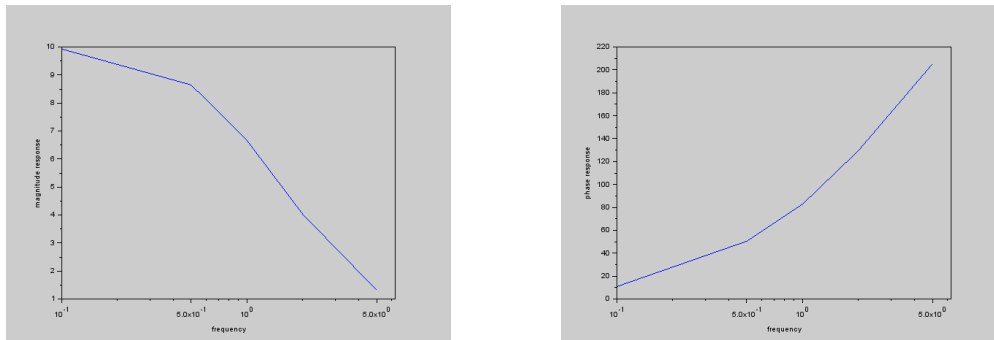

Figure 11: input output signal of different frequencies
- (c) For the transfer function $G(s) = 60/(s^3 + 6s^2 + 11s + 6)$ the input and output signals for different frequencies is given in Figure 10. The phase response and magnitude response are given in Figure 11.// The frequency when the phase angle difference is 180 degrees is 3.32 rad/sec. If the numerator had a negative number, the frequency would have been 0 rad/sec.